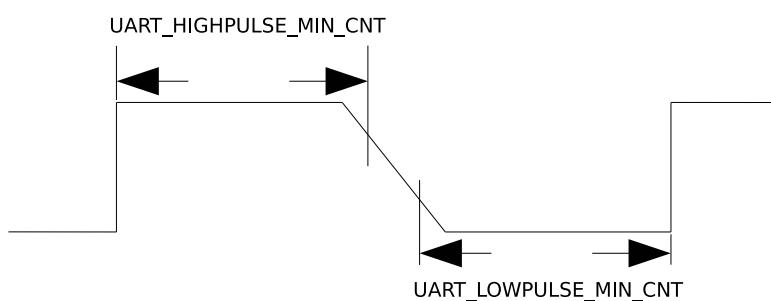

Figure 19-5. The Timing Diagram of Weak UART Signals Along Falling Edges
2. If UART signals are weak along falling edges as shown in Figure 19-5, which leads to an inaccurate average of `UART_LOWPULSE_MIN_CNT` and `UART_HIGHPULSE_MIN_CNT`, use `UART_POSEDGE_MIN_CNT` to determine the transmitter's baud rate as follows: